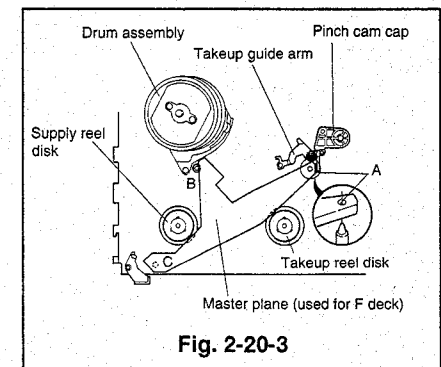
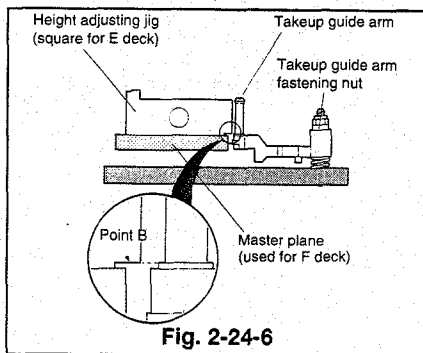

Fig. 2-20-3
Fig. 2-24-6
- ③ Install the height adjusting jig [master plane](used for F deck: Part No.859C342020) in the specified position. (Insert the jig into hole A, shown in Fig. 2-20-3, so that the jig sets on part B and the end of part C. Take care that the jig does not touch the supply and takeup reel disks.)
- 2 Install the height adjusting jig [master plane](used for F deck: Part No.859C342020) in the specified position. (Insert the jig into the hole A shown in Fig. 2-20-3 so that the jig sets on part B and the end of part C. Take care that the jig does not touch the supply and takeup reel disks.)
- ① Place the height adjusting jig (for the F deck) in the reference position on the main plate (Refer to Fig. 2-20-3). Tighten the takeup guide arm fastening nut so that the lower flange of the takeup guide arm is level with point B of the height adjusting jig (for the E deck). (Refer to Fig. 2-24-6).